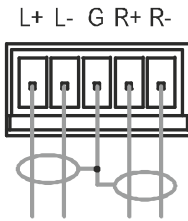

Figure 6: Balanced Stereo Audio Connection
- A balanced, stereo audio connection, see Figure 6